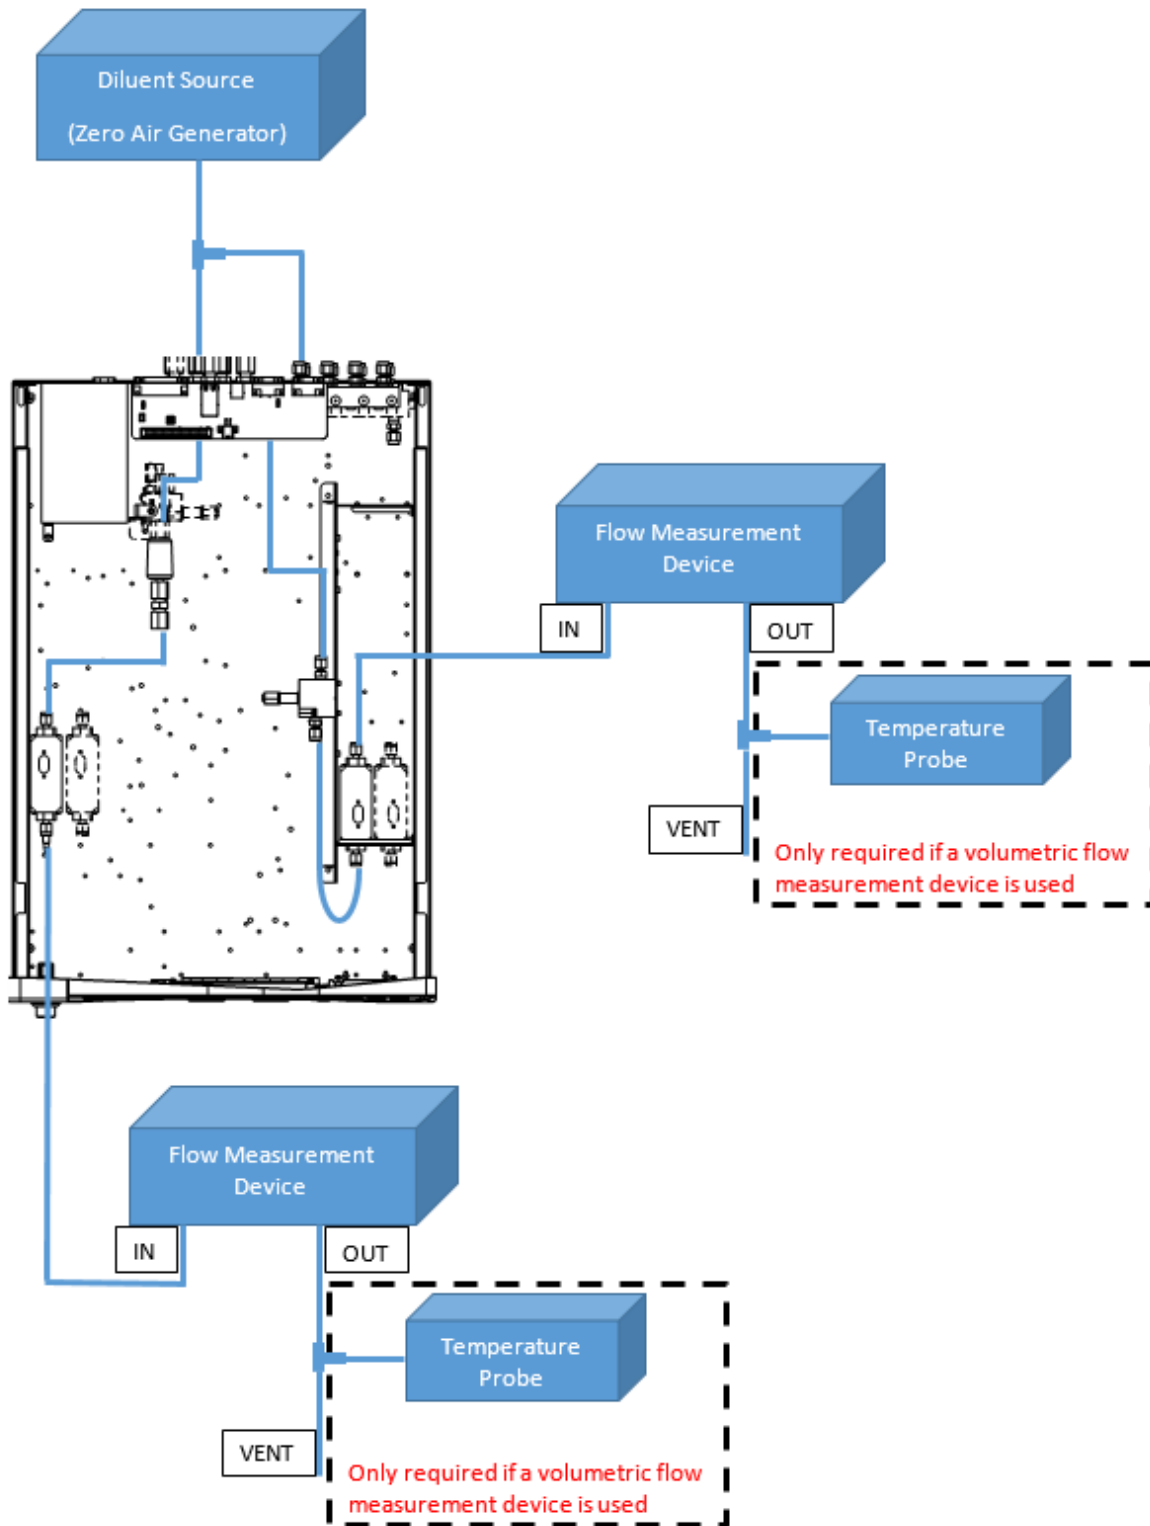

Figure 143 – MFC Calibration Setup
3. Connect diluent air to the **diluent port** as well as a spare **source port** (via a T-piece as shown in Figure 143).
9. Connect the flow measurement device directly to the output port of the MFC (refer to Figure 143).